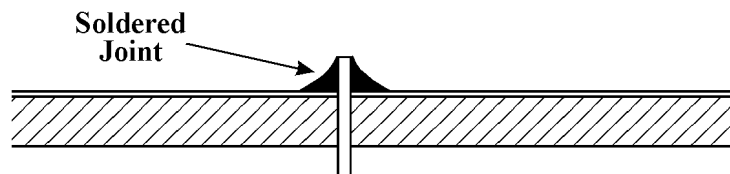

Figure 3
- 5.5 The soldering joint when properly soldered should appear bright and uniform with an even meniscus as indicated in *Figure 3* below.